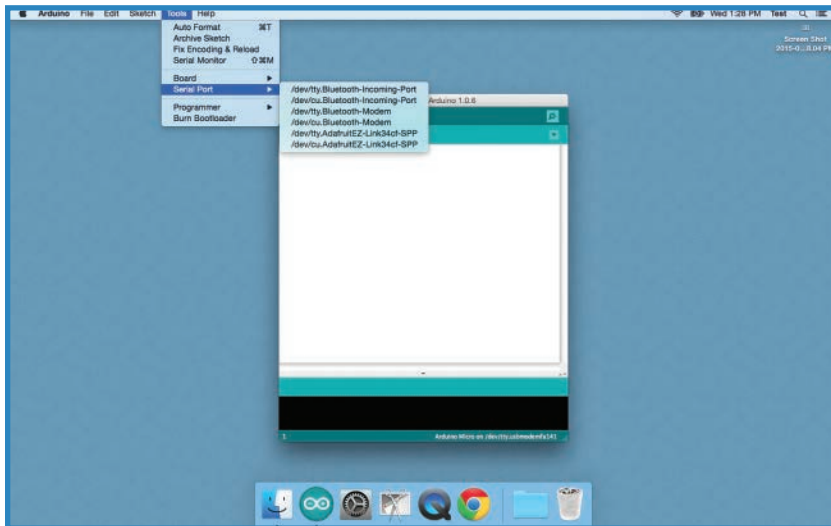

FIGURE 5.8 Choose the port.
4. You'll also have to select a port. That is in the Tools menu as well, as shown in Figure 5.8. You may have to try a couple different ports to find one that works.